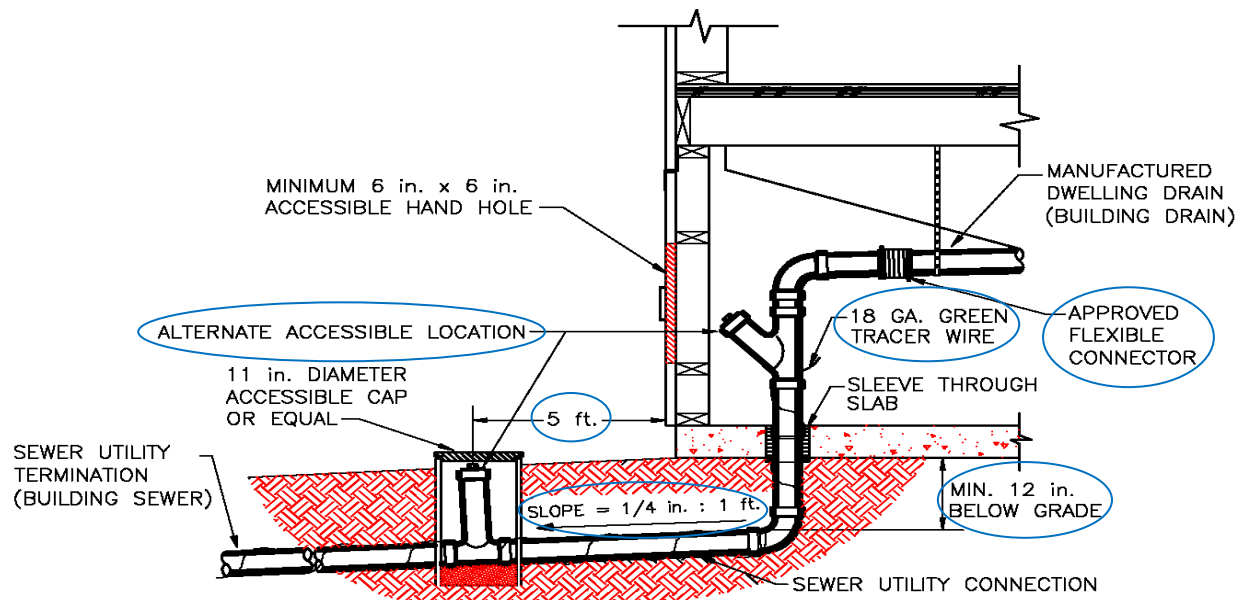

Figure 7-6.2 Typical Drain Line Connection
The installation and connection of the manufactured dwelling drain outlet to the sewer must comply with this code and where not specific to the Oregon Plumbing Specialty Code. See Figure 7-6.2.
A drain piping cleanout fitting must be installed in the drain piping system either under home or within 5 feet of the home. See Figure 7-6.2.
- Buried a minimum of 12 inches below grade. See Figure 7-6.2
- Graded at 1/4 inch per foot. See Figure 7-6.2
- Non-metallic drainage piping must have a green 18 gage tracer wire buried in the trench the entire length of the pipe. The end of the tracer wire must be left above finished grade at the cleanout next to the manufactured dwelling. See Figure 7-6.2